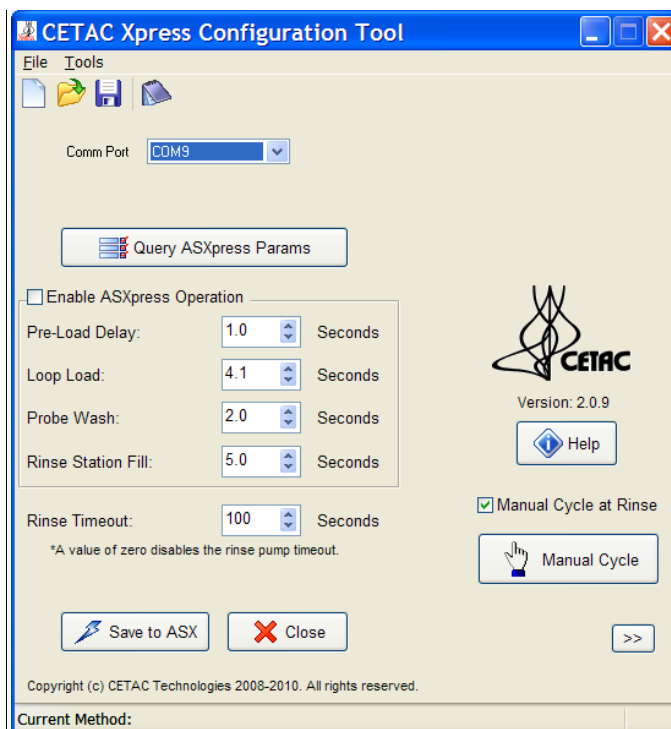

Figure 1-51 Xpress Configuration Tool—“Query ASXpress Params” (post-query)
- 3 Check the “Enable ASXpress Operation” box (Figure 1-51). Unchecking this box would allow the autosampler to run independently of the *ASXpress* system, as if the autosampler were connected directly to the host PC. (Note that a different tubing arrangement would be required to run the autosampler without the *ASXpress* system.)